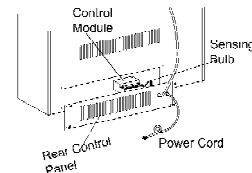
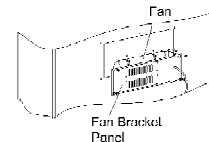
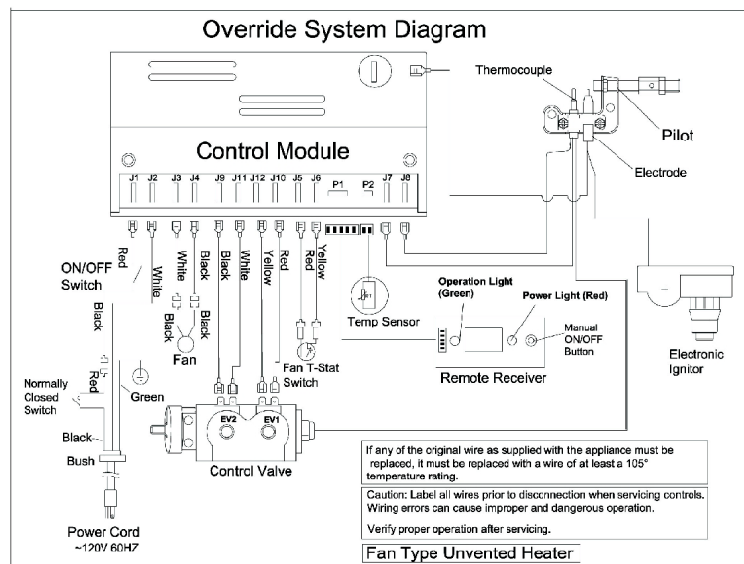

Figure 22- Control Model
Figure 23- Fan
Figure 26-Override Control System Diagram
2. Remove two screws and hex nuts, take out the control module. When installing, reverse the steps above. (See Figure 22 and Figure 26)
2. Mark or tag each wire removed for its exact reconnection. Remove the four screws from the fan. When installing, reverse the steps above. (See Figure 23 and Figure 26)